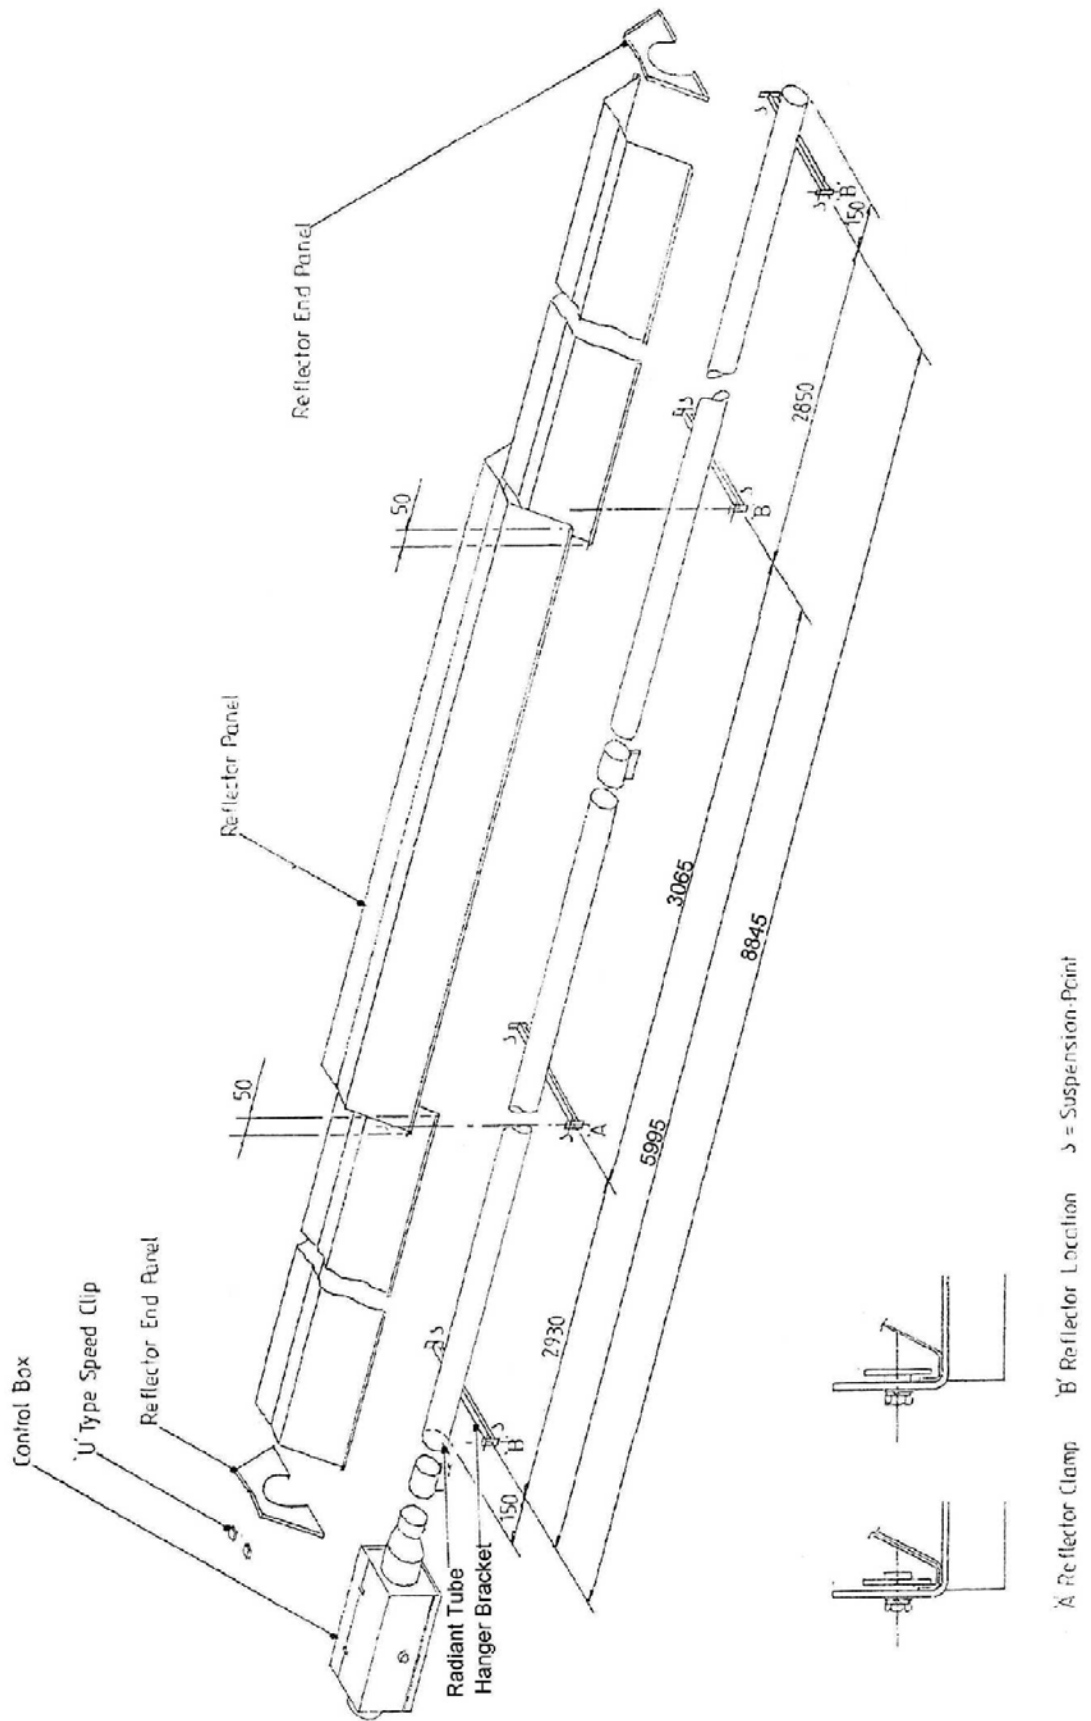

Fig. 11
- 4.2.2 Place two Radiant Tubes on trestles, providing 150mm minimum clearance above the floor and assemble two Hanger Brackets to each of the Radiant Tubes using one U bolt per bracket (from fastenings pack) and position along the Radiant Tubes as shown in Fig. 11 Ensure that the welded seam of the tubes is in contact with the Hanger Bracket i.e. facing away from the reflector. Tighten the nuts sufficiently to retain the Hanger Brackets. Do not overtighten.
- 4.2.4 The two sections should now be raised and suspended from previously fixed chains or drop rods as detailed in Section 3.1, at suspension points indicated in Fig. 11 & 12. Rope or webbing should be used when lifting from above. If using a forklift to position the appliance sections, ensure that they are balanced on the forks prior to lifting.
- 4.2.5 Place a Torctite Coupling over the open end of one Radiant Tube ensuring that it engages fully, up to the stop. Assemble the second Radiant Tube into the Torctite Coupling ensuring that it engages fully, (up to the stop), with the Hanger Brackets aligned with those of the first Radiant Tube section (see Fig. 11). Tighten the screws of the Torctite Coupling to secure the two sections of Radiant Tube to one another, taking care to maintain the tubes in a straight line.
- 4.2.6 Place two of the Reflector Panels onto the Hanger Brackets and position their outer edges such that they overhang the outer Hanger Bracket by 80mm (see Fig. 11). Place the third Reflector Panel over the two previously positioned Reflector Panels to provide a 50mm overlap at each end. Clamp the first and second Reflector Panels, where they overlap, to the second Hanger Bracket, (from Control Box) using two retainers and M6 setscrews and washers (fastenings pack). Secure the outer end of the centre Reflector Panel to the Reflector Panel furthest from the Control Box, using two 'U' type speed clips (from fastenings pack) as shown in Fig. 11. Screw the remaining (6) retainers to each of the other Hanger Brackets to provide **location** for the Reflector Panels as shown in Fig.11.
4.2.7 Position one Reflector End Panel over the Radiant Tube and into one end of the Reflector Panels with the End Panel flange flush with the end of the Reflector Panel. Secure the Reflector End Panel to the Reflector Panel by the use of six 'U' type speed clips provided (fastenings pack); as shown in Fig. 11.